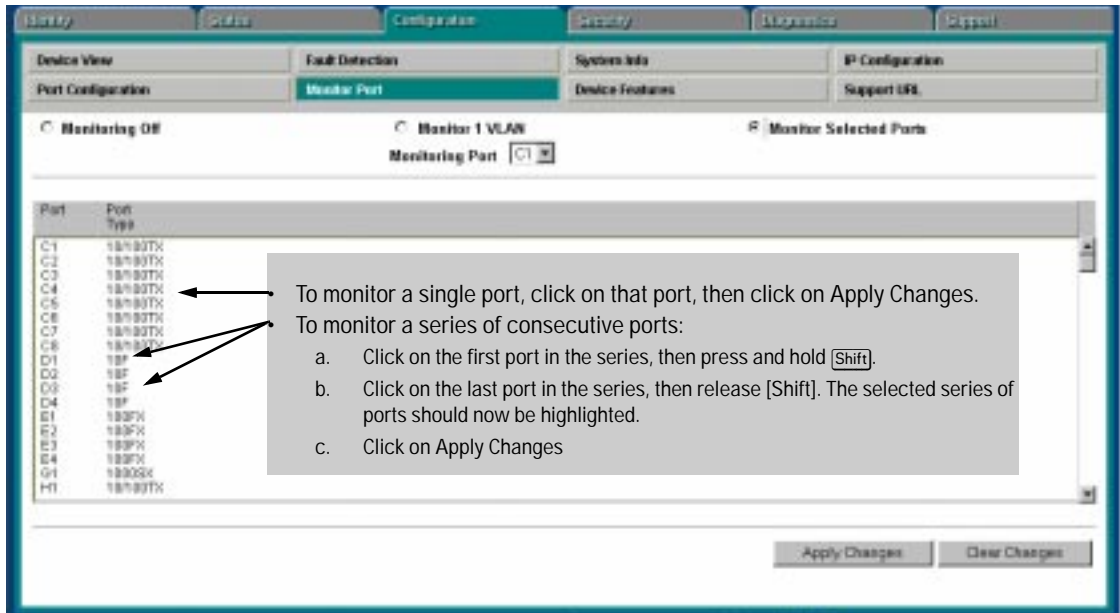

Figure 6-14. Selecting the Port(s) To Monitor
- If you want to monitor one port or several consecutive ports, click on the **Monitor Selected Ports** button. (See figure 6-14, below.)